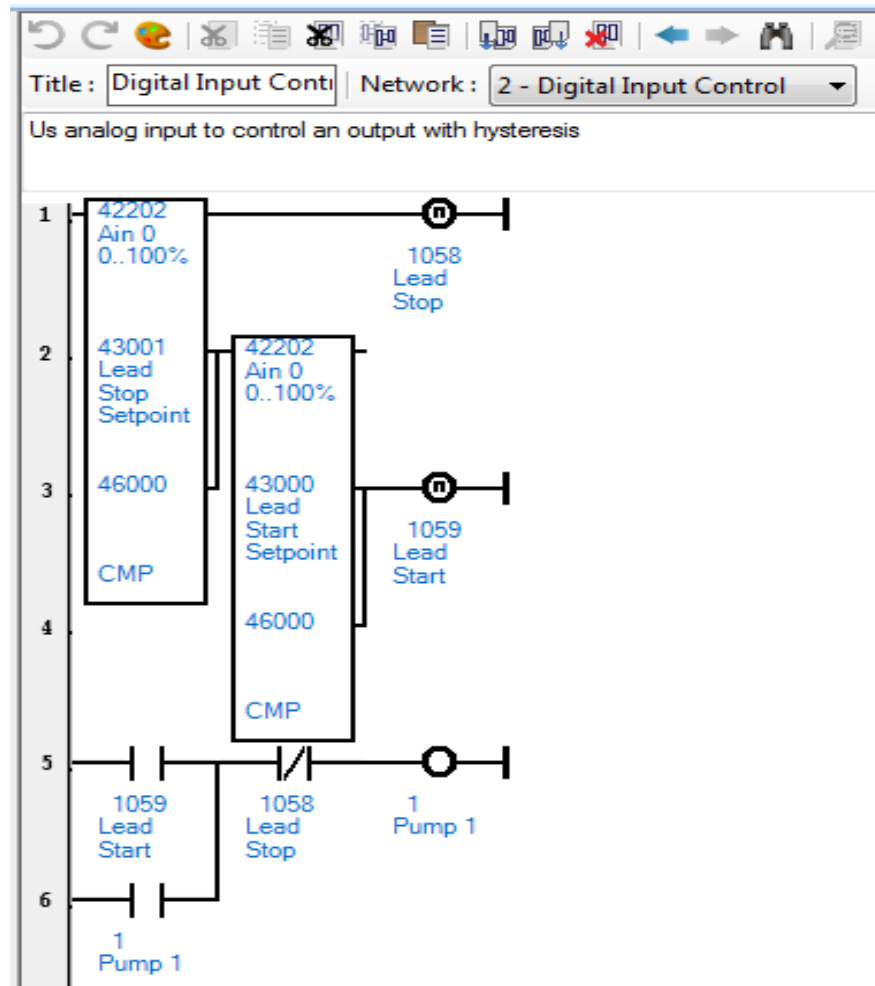

Figure 39: Modified Set Point Network
- **Modify Network 2** as shown in Figure 39: Modified Set Point Network.